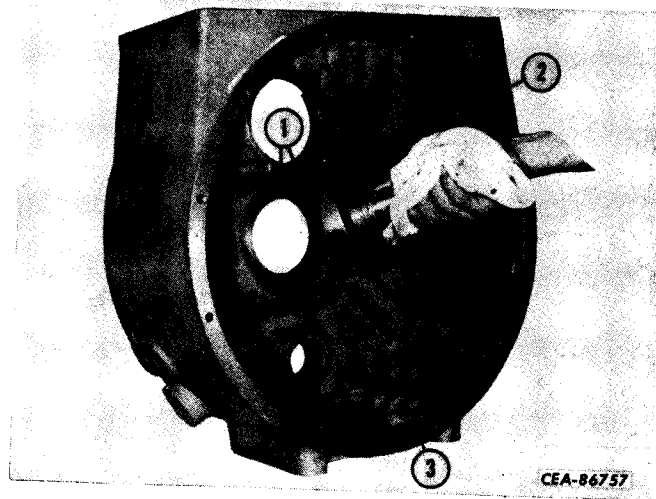

Figure 3-40
Insert two headless guide screws (1, Fig. 3-40) ($3/8'' \times 3''$ N.C.) in chilled ground sleeve hub (2) and position hub in converter housing aligning oil passages (3) and bolt holes. Press hub into converter housing.